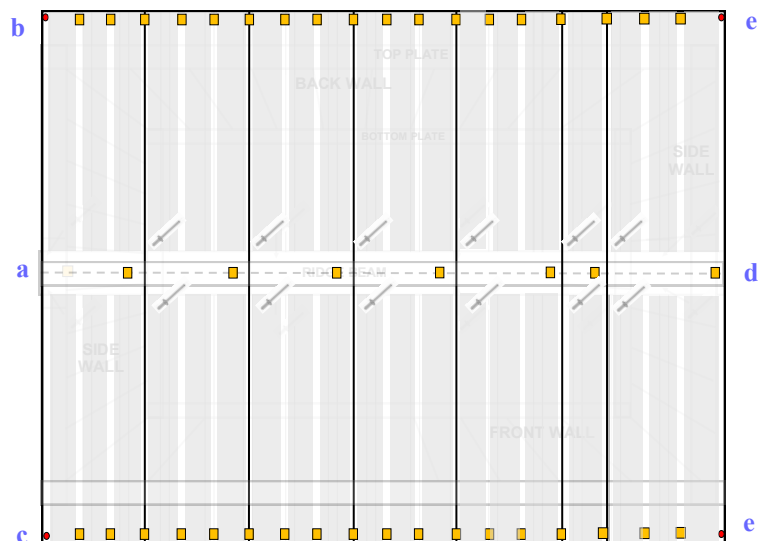

fig.2
- Rivet the 2 Ridge Caps together using 4 rivets, so total flashing is 3.220m long. Rivet the Ridge Cap to the centre of the roof using 8 x rivets as shown (fig.2).